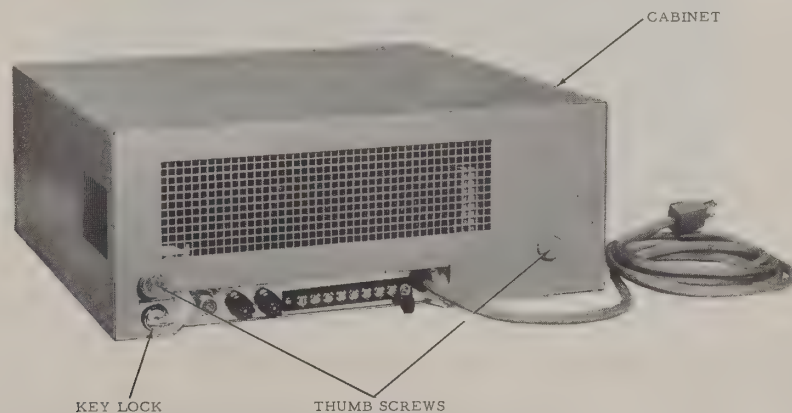

Figure 1.
- a. Cabinet Removal (Figure 1)
- (1) Unlock the cabinet with the key provided.
- (2) Unscrew the two thumb screws at the rear of the cabinet.
- (3) Grasp the cabinet about midway from front to rear and slide away from the front panel until the cabinet clears the latch (approximately three inches) and lift away.